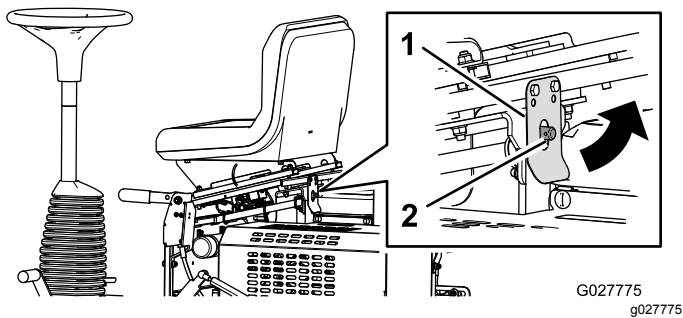

Figure 19
2. Pull back on the seat latch, and tip the seat forward (Figure 19).